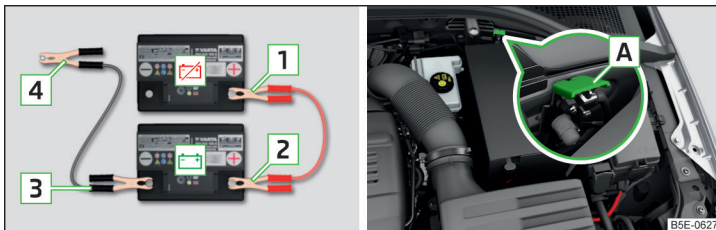

Fig. 334 Jump-starting: - discharged battery, - power-supplying battery/ground point of the engine for the START-STOP system
- › For vehicles **with** the START-STOP system, secure the clamp **4** to the ground point of the engine **A** » Fig. 334.